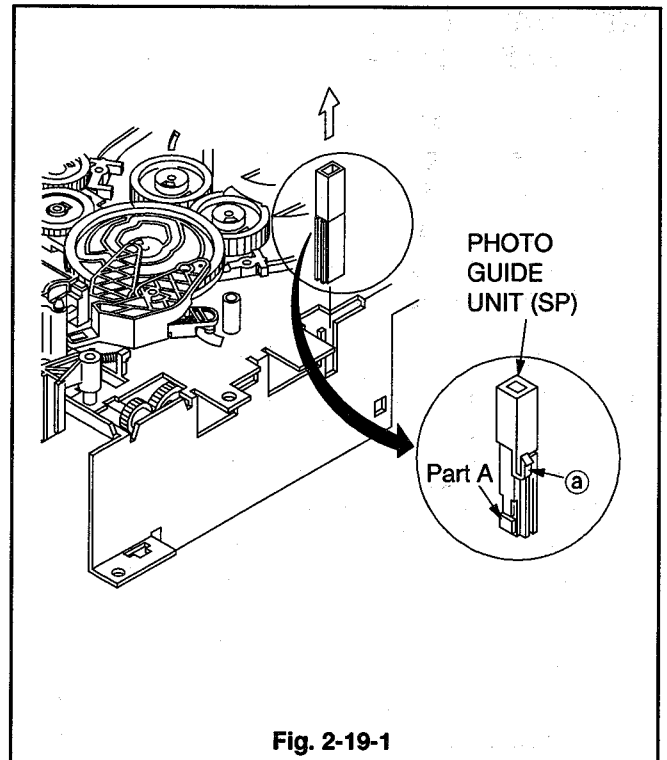

Fig. 2-19-1
- 1 Unfasten the catch (Ⓐ) of the PHOTO GUIDE UNIT (SP) shown in Fig. 2-19-1 with tweezers, etc. and remove the PHOTO GUIDE UNIT (SP) in the direction shown by the arrow.
- 2 Push the PHOTO GUIDE UNIT (SP) into the DECK so that the catch (Ⓐ) is hooked, with the part A shown in Fig. 2-19-1 toward the inside of DECK.